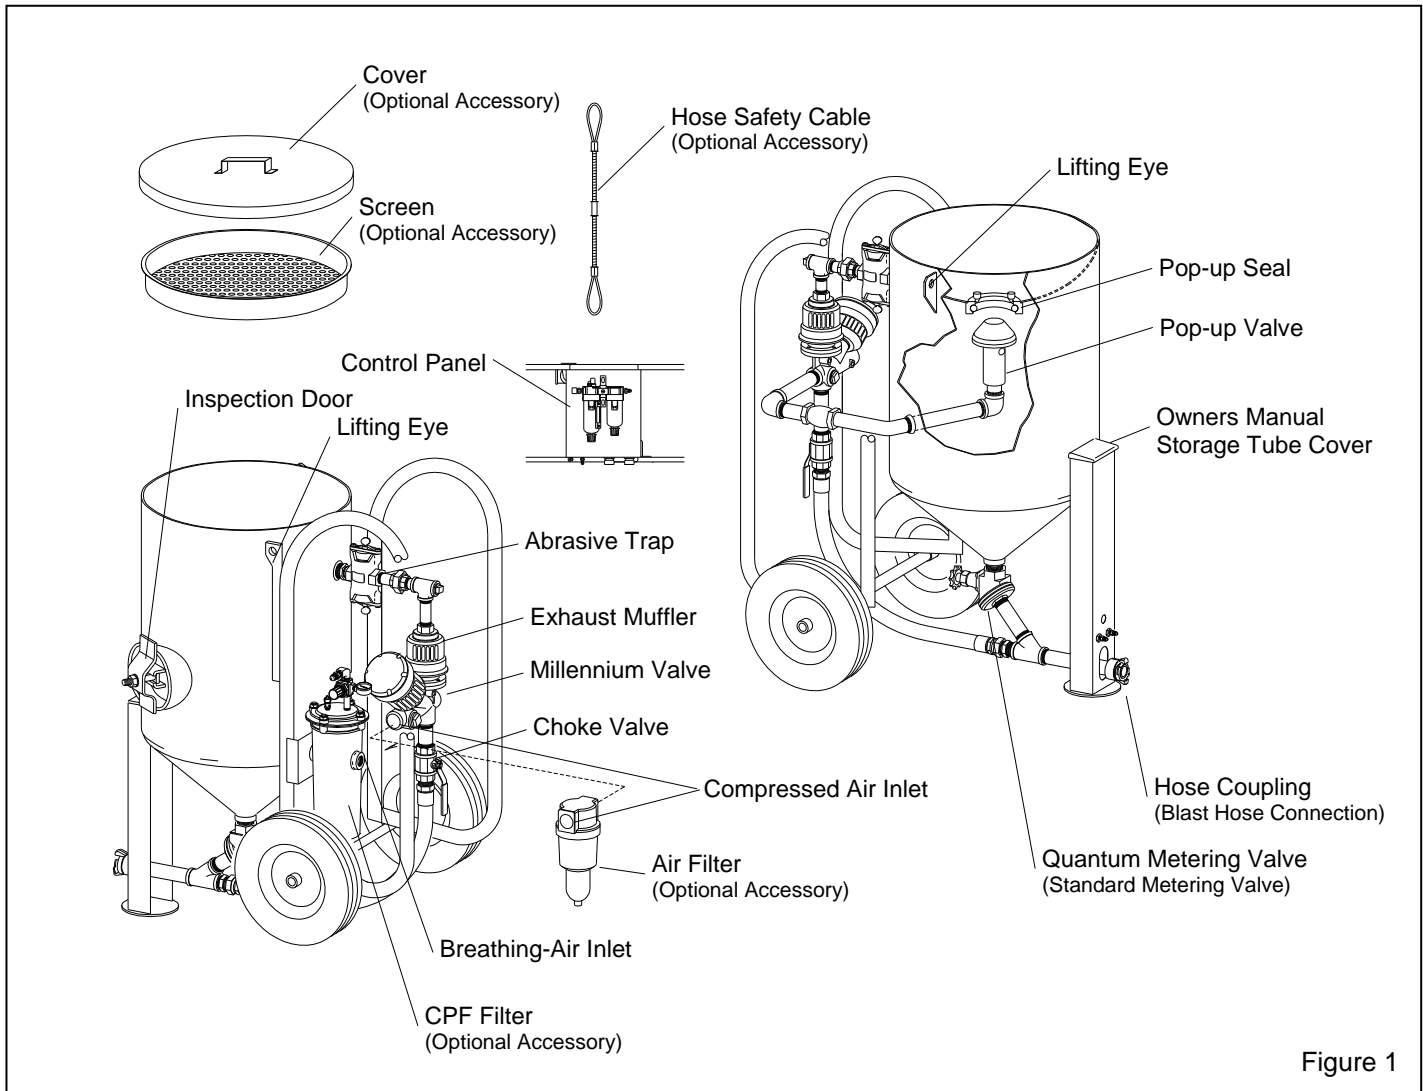

Figure 1
1.3.1.1 The primary components of the Contractor machines are shown in Figure 1. They include the blast machine with Millennium remote controls, electric control panel, Quantum abrasive metering valve, frame assembly, optional air filter, and optional CPF air filter.
2.4.2 Connect an air supply hose fitting that is compatible with the air supply hose from an air source that meets OSHA requirements for respirable air, to the CPF Filter inlet, as shown in Figure 1. Pressure supplied to the filter must not exceed 150 psi.